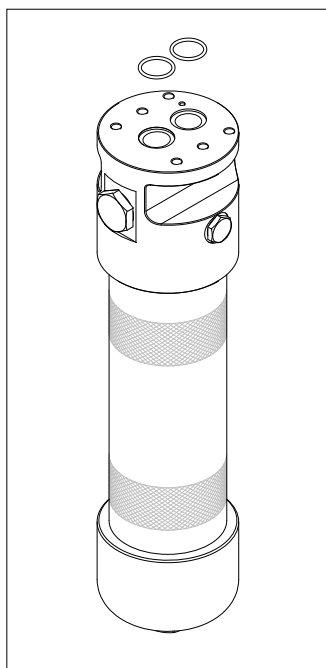

fig. 31
- (Fig. 31) Replace the O-rings of the manifold